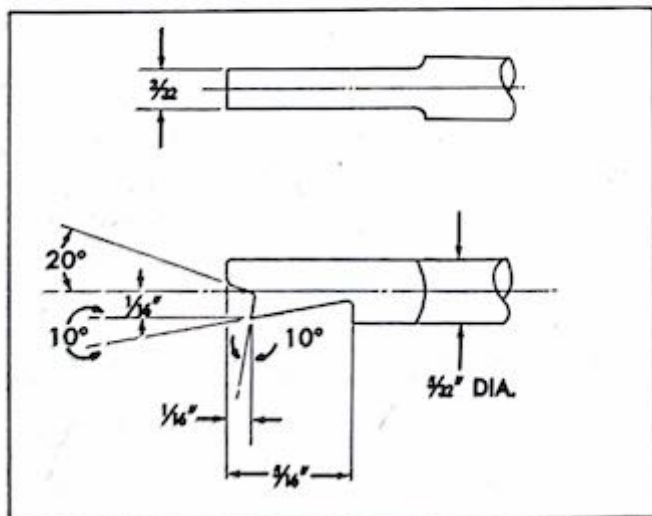
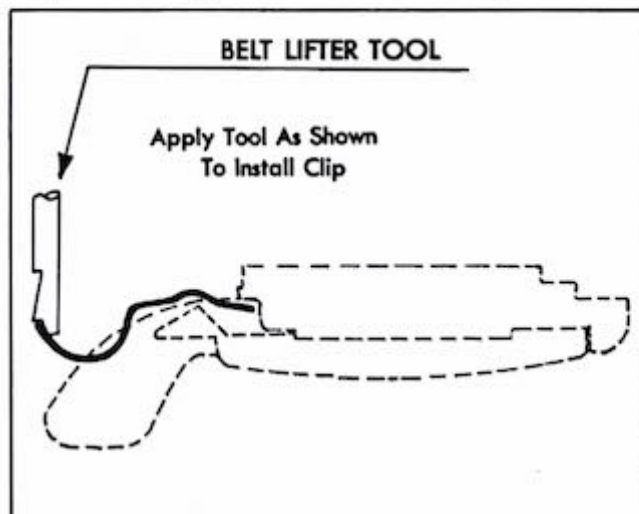

Figure 2-8. Belt lifter tool dimensions
Figure 2-9. Belt lifter tool in use
(3) If the hinges are cracked, broken, or loose, drill out the rivets (18) and remove the hinges. Position the new hinges and rivet securely with the heads of the rivets on the outside of the nozzle casting (23).
(4) Align the plastic gasket (19) with the rug plate and cement securely in place.
(5) Engage the rug plate with the two hinges on the nozzle casting; bend the ends of the hinges down even with the edge of the casting to retain the rug plate.
(6) Install the brush on the rug plate as directed in paragraph 2-3b(7).
2-6. BELT LIFTER REPAIR (560). Replace the belt lifter insert clip with a tool you can make yourself from an old screwdriver. Grind it to shape as in fig. 2-8 and use as in fig. 2-9.